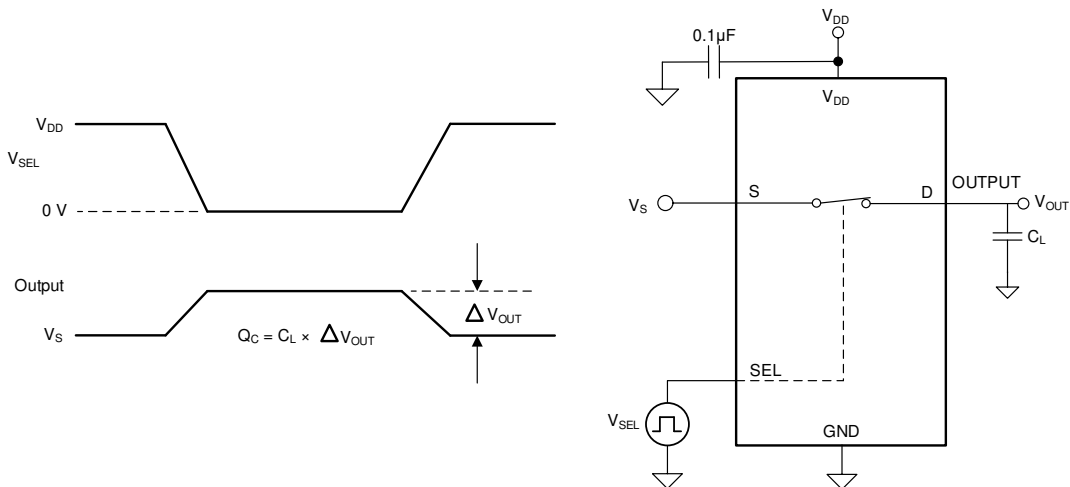

Figure 7-5. Charge-Injection Measurement Setup
The TMUX110x devices have a transmission-gate topology. Any mismatch in capacitance between the NMOS and PMOS transistors results in a charge injected into the drain or source during the falling or rising edge of the gate signal. The amount of charge injected into the source or drain of the device is known as charge injection, and is denoted by the symbol Q_C . Figure 7-5 shows the setup used to measure charge injection from source (S) to drain (D).